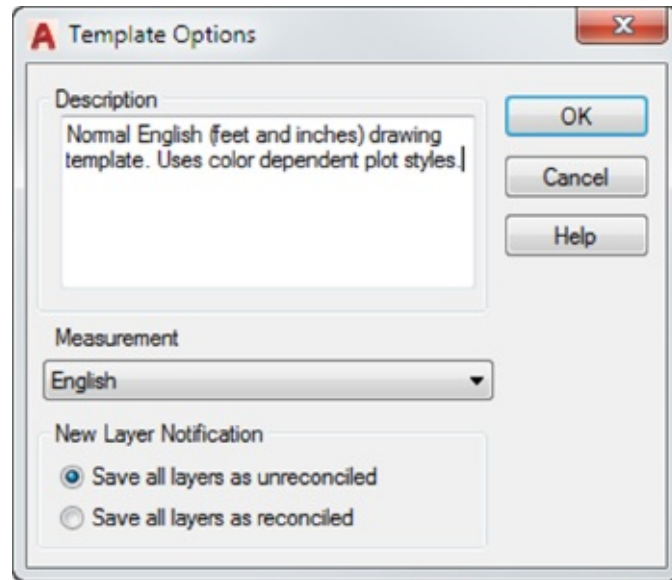

FIGURE 6.1 The Template Options dialog box
8. Click Save to open the Template Options dialog box (see Figure 6.1).